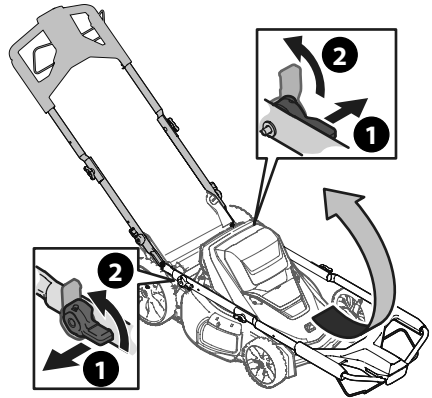

Figure 4
6. Rotate the handle adjustment levers to release the handle adjustment pins from the handle bracket. See Figure 4 insets.